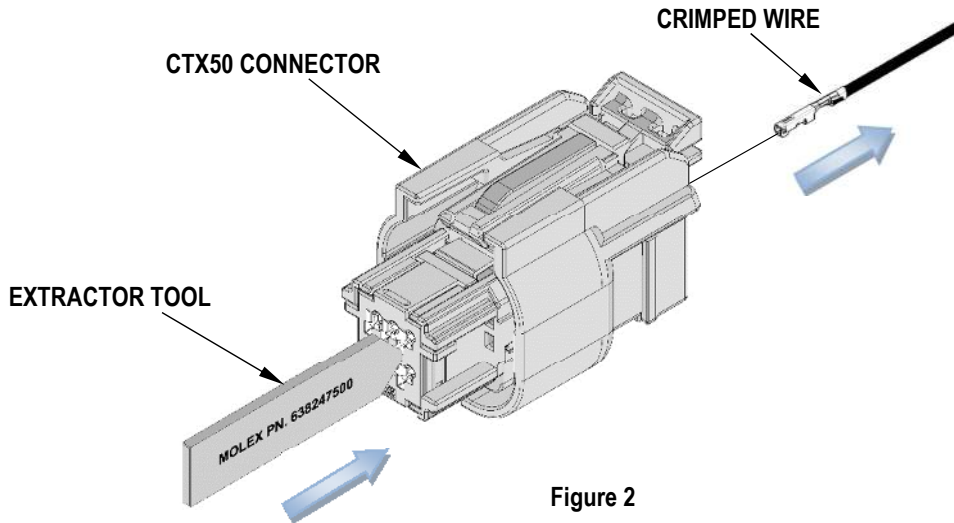

Figure 2
5. Holding the extractor tool against the housing, gently pull the crimped wire out of the connector. See Figure 2.